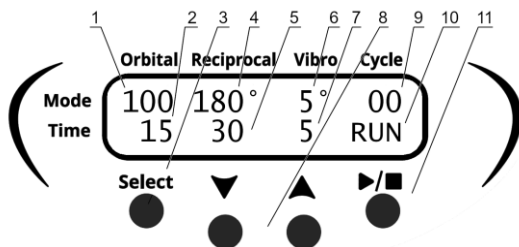

Figure 2. Model Multi Bio 3D, control panel
6.3.3. Press the **Select** key (fig. 2/3) to choose the parameter to change (the active parameter is blinking).
6.3.4. Use the **▼** and **▲** keys (fig. 2/8) to set the necessary value. Pressing the key down for more than 2 s will make the values change quickly.
6.3.6. Set the speed (fig. 2/1), turning angle (fig. 2/4, fig. 2/6), time for each motion type (fig. 2/2, 2/5 and 2/7) and number of cycle repetitions (fig. 2/9).